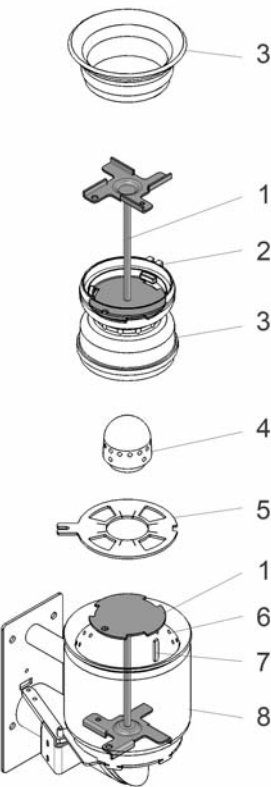
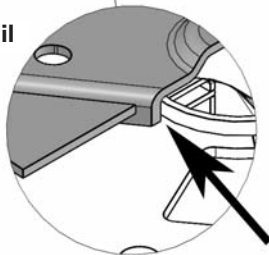

Fig. 120 BioWIN 100
Fig.122 BioWIN 210/260
- Lift out the cone (3) using the cleaning tool (1) – Fig. 120, 121, 122.
- Use the spatula to scrape off the deposits from all sides of the cone (3), however in particular on the underside.
- Vacuum out the burner pot, remove the primary air pin (4) and carefully clean the holes with a small screwdriver or drill bit if necessary (holes must be clear).
- Raise the grate plate (5) from below through the base of the burner pot and remove it. Use the spatula to scrape ash residues off the grate plate (5) and the hole in the middle.
- Turn the cleaning tool (1) to scrape off combustion residues in the base of the burner pot – Figs. 120, 121, 122. The pipe for the primary air pin serves as a guide for the cleaning tool – see detail in Fig. 122. Use the spatula to scrape out the edges in the base of the burner pot until they are clean. All secondary air holes (6) in the burner pot must be clear, clean them with a small screwdriver or drill bit if necessary.
- Important:** Before inserting the primary air pin (4), once again vacuum out the primary air tube in the middle of the burner pot. Make sure there is no debris in the tube (damage to the ignition element!).
- Insert the primary air pin (4) (Groove must engage in anti-twist device).
- Place the cone (3) into the burner pot using the cleaning tool (1). The guide groove (2) of the cone must engage in the lock (7) – Figs. 120, 121, 122.